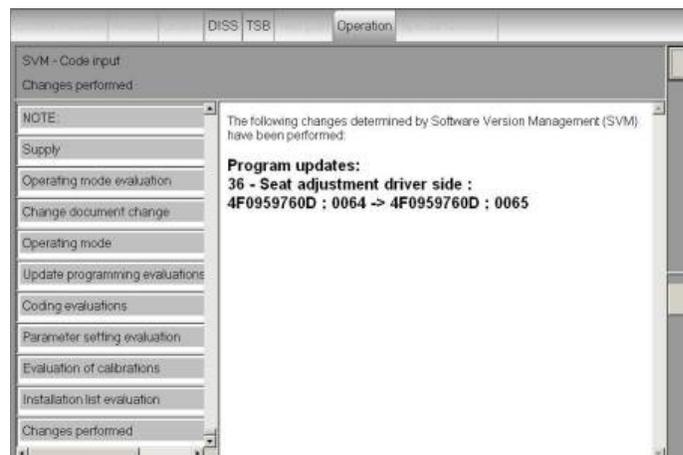

Figure 8. Completing the update.
8. Follow the instructions on the tester to complete the control module update (Figure 8).